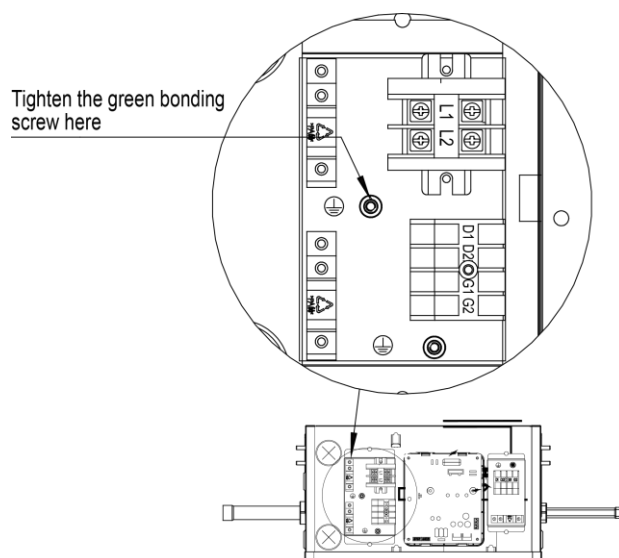

Fig. 5.4
- 3) Connect power cord to “L1, L2” terminal and earthing screw. Please use the green bonding screw to connect the earthing cord. The location is showing in the Fig 5.4